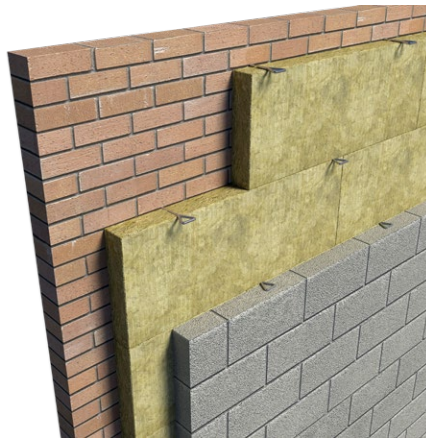

Figure 2
5. Cavity trays should incorporate stop ends, have weep holes at approximately 450mm centres (or a maximum of 900mm centres) and be continuous across closely spaced openings (Figure 2).
- 4.** Before installing each course of batts, excess mortar must be removed from the inside face of the leading leaf, and mortar droppings cleaned from the exposed edges of the batts. This is made easier by the use of a cavity board (Figure 2). This sequence should be maintained progressively until it reaches the wall plate or cavity tray. It is important for the insulation to be carried to the highest level possible (Figure 5).